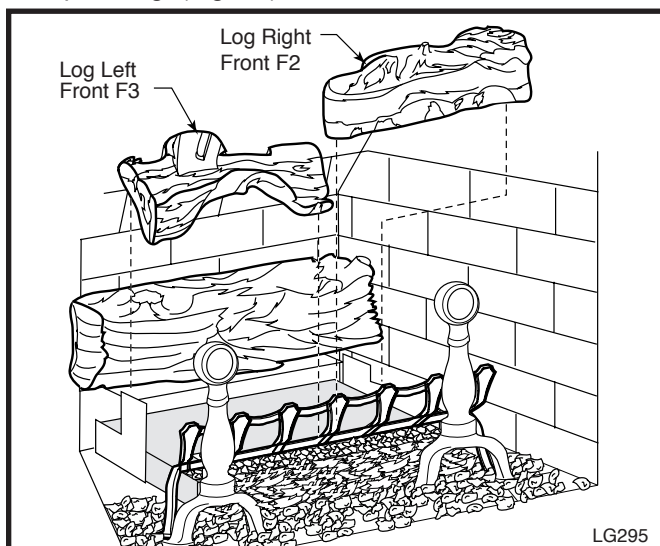

**Fig. 44** Place log rear onto rear log bracket.
6. Center the log rear onto the rear log bracket and slide back until it comes in contact with the rear refractory lower. (Fig. 44)